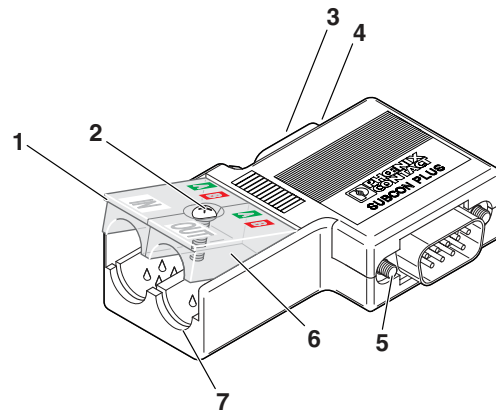

Figure 3 Structure
The termination resistors are activated at the start and end of the bus system using the slide switch (item 4 in Figure 3). At the same time, the connection terminal blocks (2A/2B) for the outgoing bus cable are switched off.